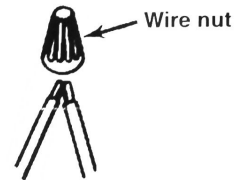

Figure 2
4. Attach wires from replacement part and wires from your old connector with the wire nuts. See Figure 2.